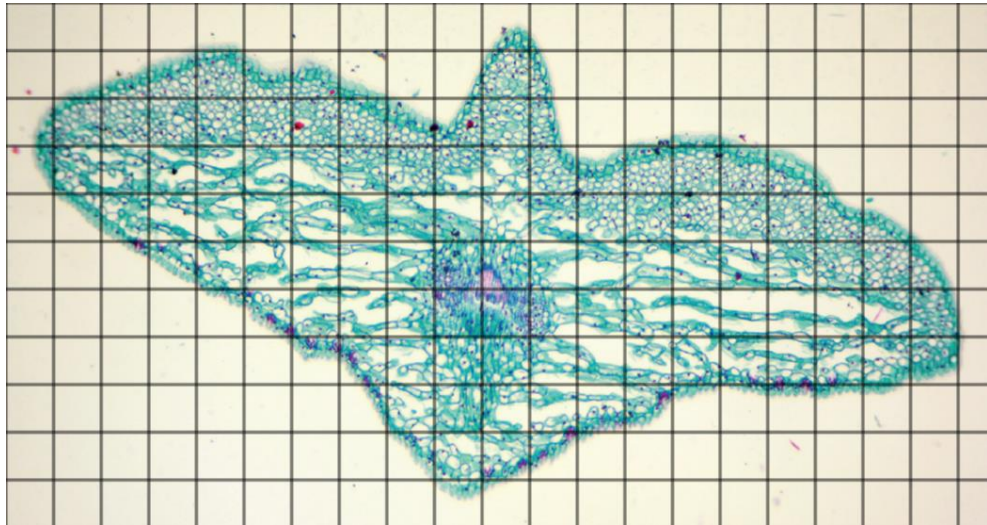

Fig 2.2
- (b) Fig. 2.2 is a photomicrograph of a stained transverse section through a leaf from a different type of plant. A grid has been placed over the photomicrograph where each square is 1 cm^2 .
- (i) Use Fig. 2.2 to measure the total area of the air spaces and the total area of the leaf.